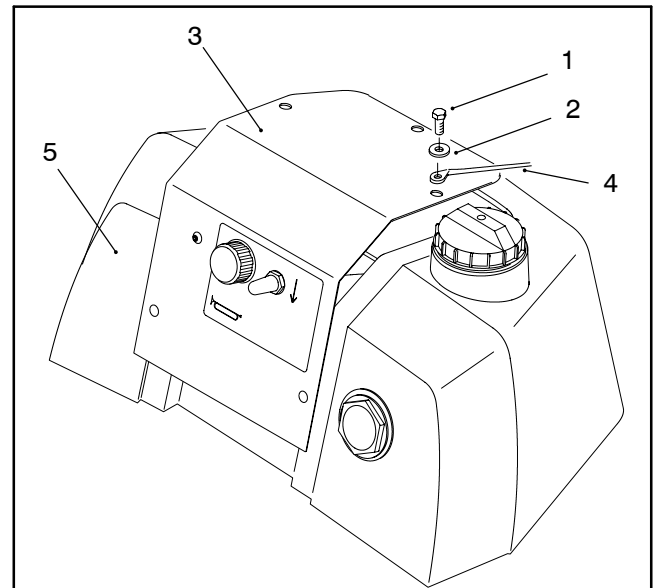

Figure 89
4. Remove five cap screws and flat washers securing the cover plate and cap tether to the leak detection tank. Remove cover plate from tank (Fig. 89).
3. Make sure five capscrews and washers securing the cover plate to auxiliary hydraulic tank are removed with the cover plate (Fig. 89).